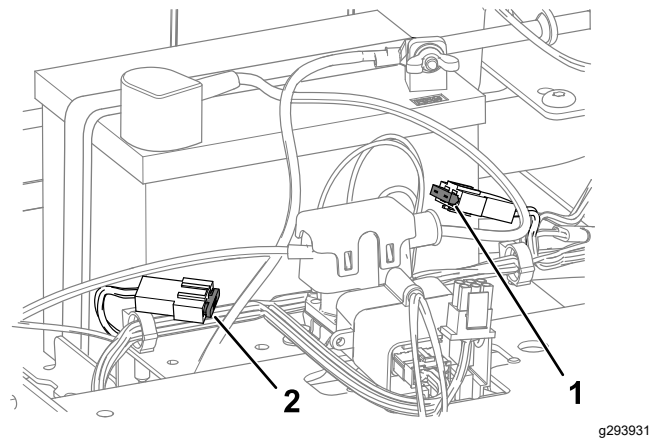

Figure 52
4. To replace a fuse, pull out the fuse to remove it (Figure 52).